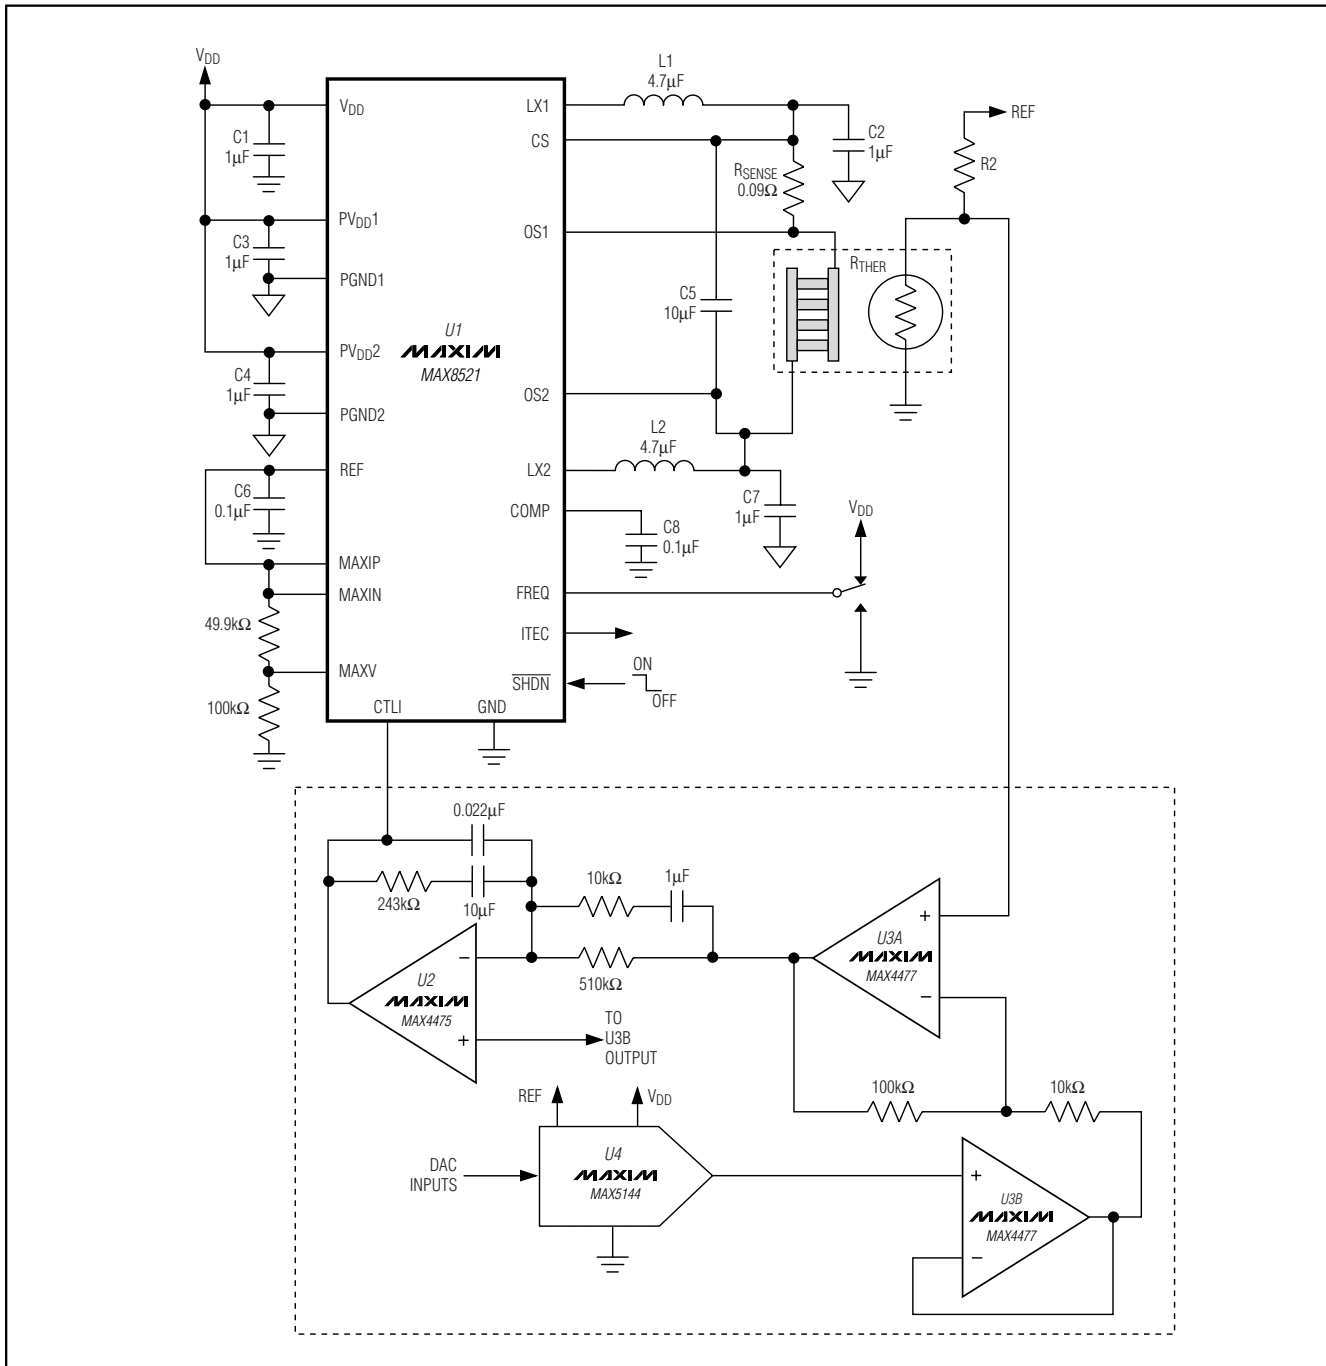

Figure 1. MAX8521 Typical Application Circuit
($V_{DD} = 5V$, circuit of Figure 1, $T_A = +25^\circ C$, unless otherwise noted)
($V_{DD} = 5V$, circuit of Figure 1, $T_A = +25^\circ C$ unless otherwise noted)
(V_{DD} = 5V, circuit of Figure 1, T_A = +25°C unless otherwise noted)
The MAX8520/MAX8521 TEC drivers consist of two switching buck regulators that operate together to directly control the TEC current. This configuration creates a differential voltage across the TEC, allowing bidirectional TEC current for controlled cooling and heating. Controlled cooling and heating allow accurate TEC temperature control to within $\pm 0.01^\circ\text{C}$. The voltage at CTLI directly sets the TEC current. An external thermal-control loop is typically used to drive CTLI. Figures 1 and 2 show examples of the thermal control-loop circuit.
Table 1. TEC Connection for Figure 1
The MAX8520/MAX8521 include an on-chip voltage reference. The 1.50V reference is accurate to 1% over temperature. Bypass REF with 0.1 μF to GND. REF can be used to bias an external thermistor for temperature sensing as shown in Figures 1 and 2.
The common-mode filter capacitors (C2 and C7 of Figure 1) are used as filter capacitors to ground for each output. The output ripple voltage depends on the capacitance, the ESR of these capacitors, and the inductor ripple current. Ceramic capacitors are recommended for their low ESR and impedance at high frequency.
The differential-mode filter capacitor (C5 in Figure 1) is used to bypass differential ripple current through the TEC as the result of unequal duty cycle of each output. This happens when the TEC current is not at zero. As TEC current increases from zero, both outputs move away from the 50% duty-cycle point complementarily. The common-mode ripple decreases, but the differential ripple does not cancel perfectly, and there is a resulting differential ripple. The maximum value happens when one output is at 75% duty cycle and the other is at 25% duty cycle. At this operating point, the differential ripple is equal to 1/2 of the maximum common-mode ripple. The TEC ripple current determines the TEC performance, because the maximum temperature differential that can be created between the terminals of the TEC depends on the ratio of ripple current and DC current. The lower the ripple current, the closer to the ideal maximum. The differential-mode capacitor provides a low-impedance path for the ripple current to flow, so that the TEC ripple current is greatly reduced. The TEC ripple current can then be calculated as follows:
There are numerous ways to implement the thermal loop. Figures 1 and 2 show designs that employ precision op amps, along with a DAC or potentiometer to set the control temperature. The loop may also be implemented digitally, using a precision A/D to read the thermistor or other temperature sensor, a microcontroller to implement the control algorithm, and a DAC (or filtered-PWM signal) to send the appropriate signal to the MAX8520/MAX8521 CTLI input. Regardless of the form taken by the thermal-control circuitry, all designs are similar in that they read temperature, compare it to a set-point signal, and then send an error-correcting signal to the MAX8520/MAX8521 that moves the temperature in the appropriate direction.
- To ensure high DC loop gain and minimum loop error, keep the board layout adjacent to the negative input pin of the integrator (U2 in Figure1) clean and free of moisture. Any contamination or leakage current into this node can act to lower the DC gain of the integrator, which can degrade the accuracy of the thermal loop. If space is available, it can also be helpful to surround the negative input node of the integrator with a grounded guard ring.